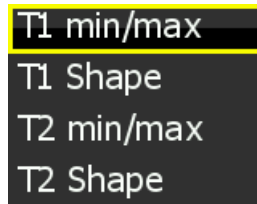

Figure 36: Tank options.
When selecting the Tank option a window illustrated in Figure 36 opens. *T2* options are shown only when the second fuel level channel is also active.
1. Select the *Tank* option from the main menu. This offers further selection according to the Figure 36.